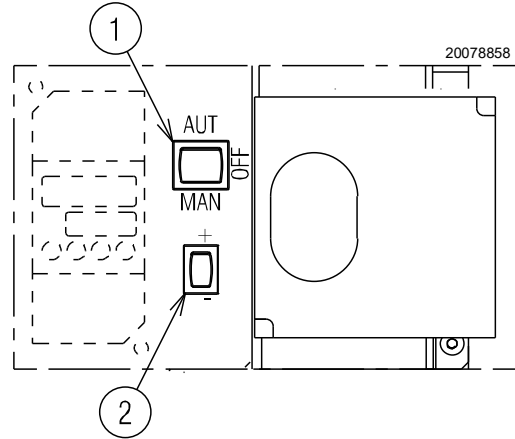
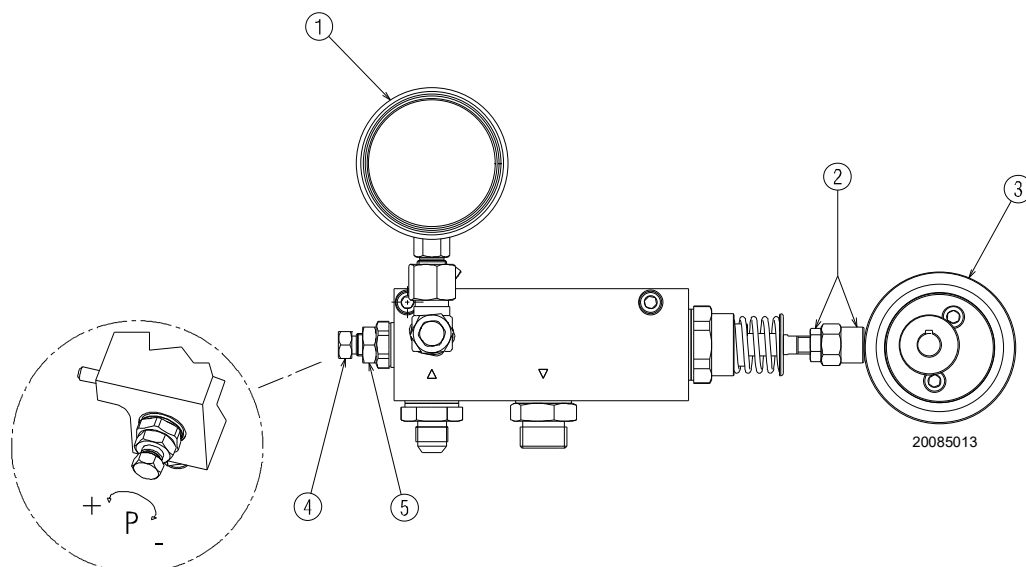

Fig. 27
Fig. 28
Close the thermostats/pressure switches and set the switch 1)(Fig. 27) to **MAN**.
- place the switch 1)(Fig. 27) to “OFF” and wait for the flame control to carry out the switching off phase;
Position the selector 1)(Fig. 27) on “MAN”.
With the servomotor in the minimum output position, the nut and the corresponding lock nut 2)(Fig. 28), should be secured against the eccentric 3).
With the servomotor at its maximum opening, the eccentric will press the modulator spindle bringing the pressure, which can be read on the pressure gauge 1)(Fig. 28), to the desired value (maximum output).
Once the calibration is finished lock the lock nut 5)(Fig. 28).
if you use a 450 kg/h nozzle and you want to obtain an output of 4550 kW, the pressure on the pressure gauge 1)(Fig. 28) (maximum pressure on the return circuit) must be about 14 bar. The relative delivery pressure on the pressure gauge 1), must be 20 bar (see Tab. J on page 20).
Key (Fig. 28)
- Switch on the burner, with the selector on the control panel on manual 1)(Fig. 27 on page 28). At this point, after the pre-purge operation, the servomotor stops at the ignition position.
- Adjust the minimum return pressure to approx. 6 bar. To do this, the length of the spindle acting needs to be changed by using the nut 2)(Fig. 28 on page 29).
- Having performed this first adjustment, increase the output by means of automatic return selector 2)(Fig. 27 on page 28) on the control panel. Pause after a 15° rotation of the servomotor and carry out another adjustment using the variable profile cam of the air (cam 1 Fig. 31 on page 32). It is recommended that a calibration be carried out that is sufficient not to create a smoky flame and that attains the maximum output as quickly as possible; using the screw 4)(Fig. 28 on page 29) adjust the pressure on the return line to obtain the desired output required by the nozzle, then go back and calibrate the intermediate points.
Adjust the servomotor to the maximum opening so that the air damper is fully open. To regulate the light oil, use the screw 4)(Fig. 28 on page 29) until the required output is obtained.
The passage from one position to the next one is obtained by pressing the selector 2)(Fig. 27 on page 28) on the symbol (+) or (-).